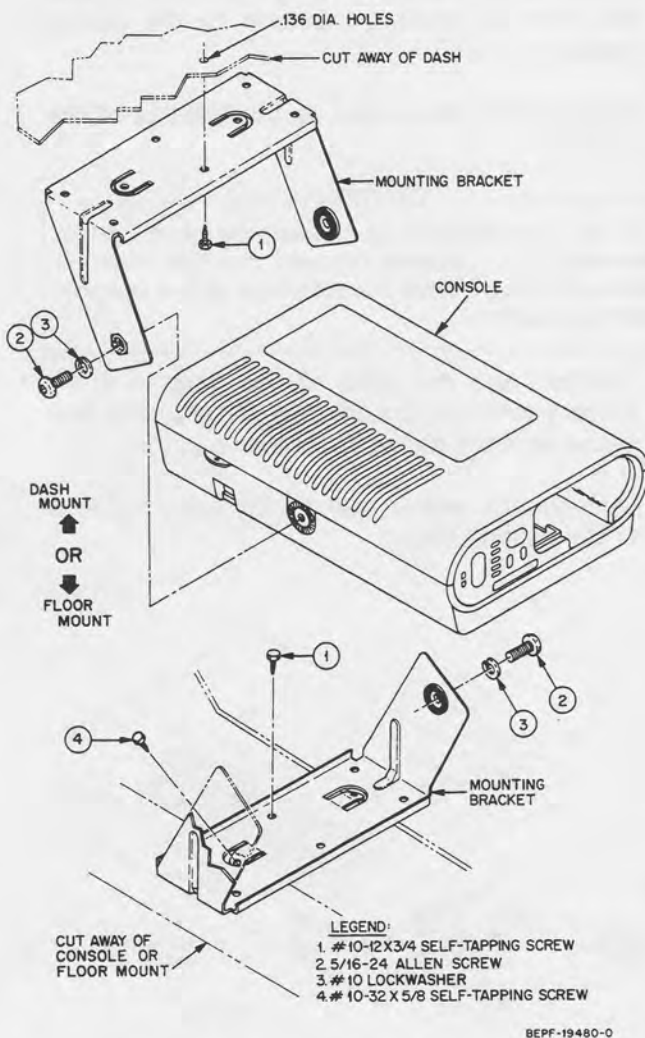

Figure 1. Console Installation Detail
Referring to Figure 1, install the console using the following procedure, or modify the procedure as necessary to conform to the vehicle type:
- Using the trunnion bracket as a template, drill the mounting holes, and mount the bracket with the hardware supplied. If the trunnion bracket is to be mounted on the floor or vehicle console, bend the tabs on the bracket to conform to the shape of the floor or vehicle console (see Figure 1).